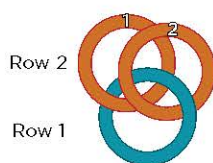

FIG. 1
2. Thread 1 open jump ring onto the starting aid and then through 2 closed jump rings. Close the jump ring. Arrange the jump rings on your work surface as shown in FIG. 1. These are the first two rows.